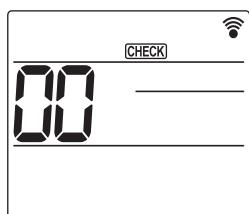

Fig. 7-9
- ① Turn on the power to the unit at least 12 hours before the test run.
- ② Press the **[MENU]** button for 5 seconds. (Fig. 7-9)